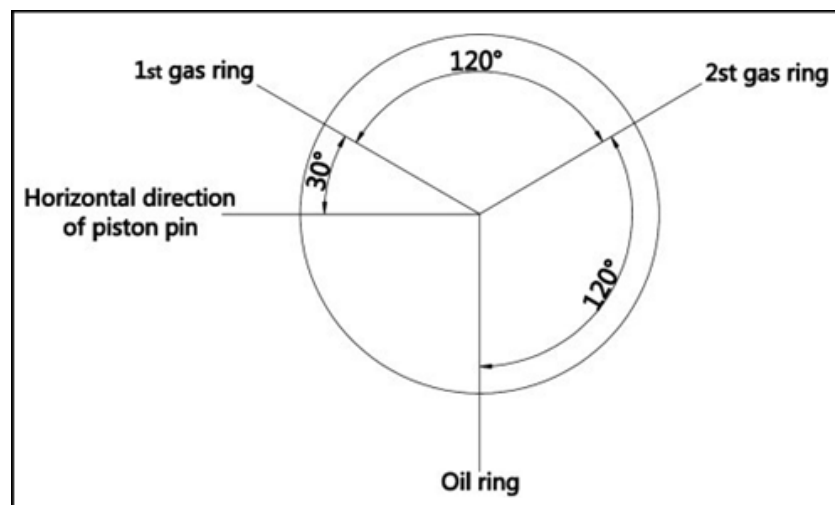

Figure 144.
- Ensure the piston ring gaps are located correctly (Figure 144).